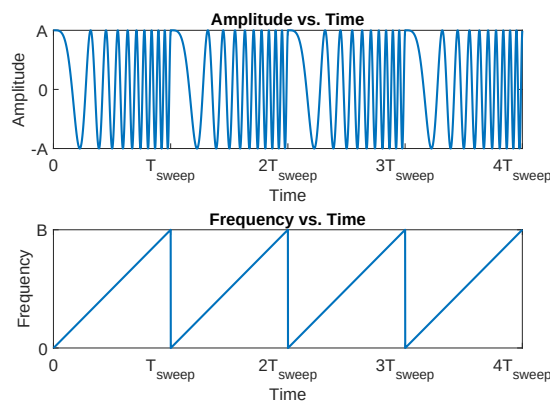

Figure 1: Transmitted signal of FMCW radar.
- i. A frequency modulated continuous wave radar or FMCW radar is a special type of radar that measures both range (distance) and range rate (speed) of moving targets. It transmits a continuous signal with varying frequency (Figure 1). This is the widely used radar type for autonomous vehicles.
The antenna transmits the signal continuously, and the Electromagnetic (EM) wave hits objects in the field of view and then reflects back to the radar receiver. The signal shown in Figure 1 consists of multiple sweeps of the signals.
- iv. Observe the signals on the oscilloscope, and explain why the waveform of the transmitted signal is different from the waveform in Figure 1.